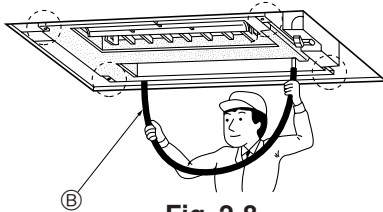

Fig. 2-8
① Suspension bolt (3/8" or M10)
② Washer ①
③ Ceiling surface
④ (Install with insulation facing down)
⑤ Nut (3/8" or M10)
⑥ Measurement to upper face of bracket
⑦ Washer ② (with insulation)
4. Check that the four corners are all level, using a spirit level or clear plastic tubing with water in it. (Fig. 2-8)